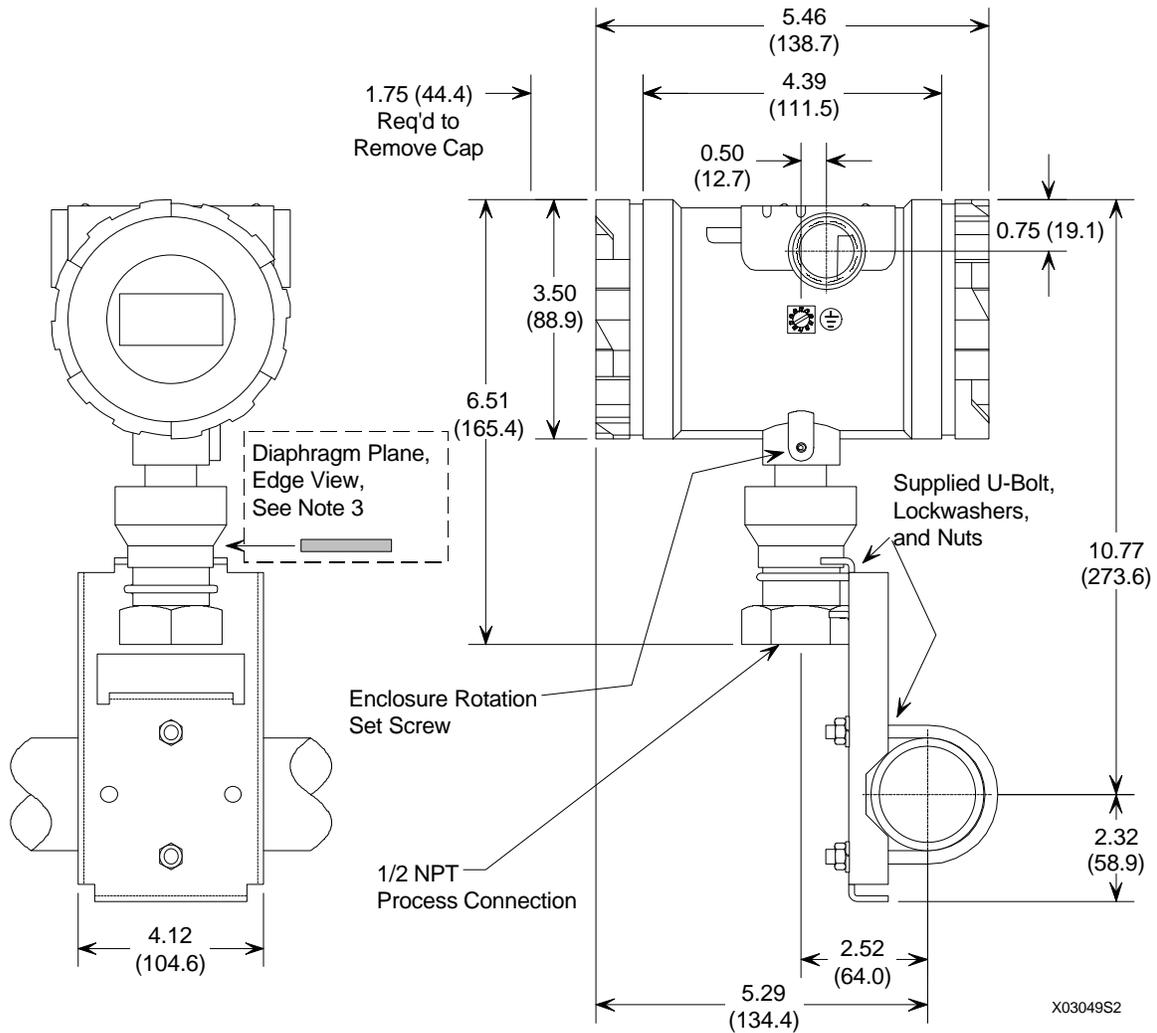

FIGURE 4-11 Pipe Mount Bracket, Models 340A and G (See Note 1)
Model 340A or G, 2" Pipe Mount Bracket and 316SS Bracket Figure 4-11
- 1) Note direction of pipe run, then refer to Figure 4-11 and orient the transmitter against the mounting bracket.